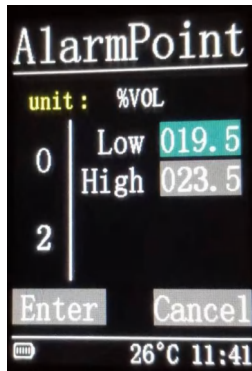

fig 32
- i.Low alarm and high alarm can be set for O₂ and LEL,in Fig.32.